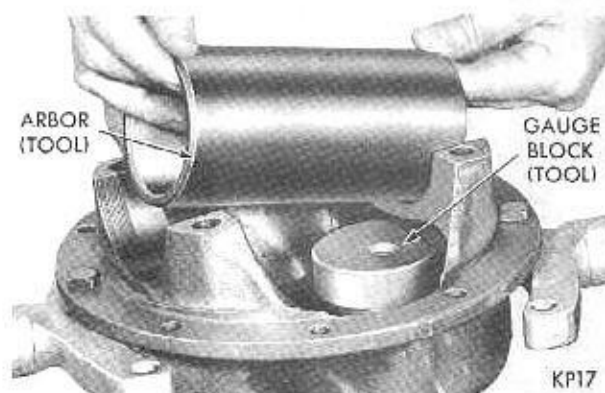

Fig. 29—Installing Arbor in Carrier
(2) Position arbor SP-561 (part of Tool C-758-D4) in differential bearing pedestals of carrier (Fig. 29). Center the arbor so that an approximate equal distance is maintained at both ends. Position differential
(6) Position tool arbor SP-561 in differential bearing pedestals of carrier (Fig. 29). Center the arbor so that an approximate equal distance is maintained at both ends. Position differential bearing caps and attaching bolts on carrier pedestals, and insert a piece of .002 inch shim stock between arbor and each cap. Tighten cap bolts to 10 foot-pounds.